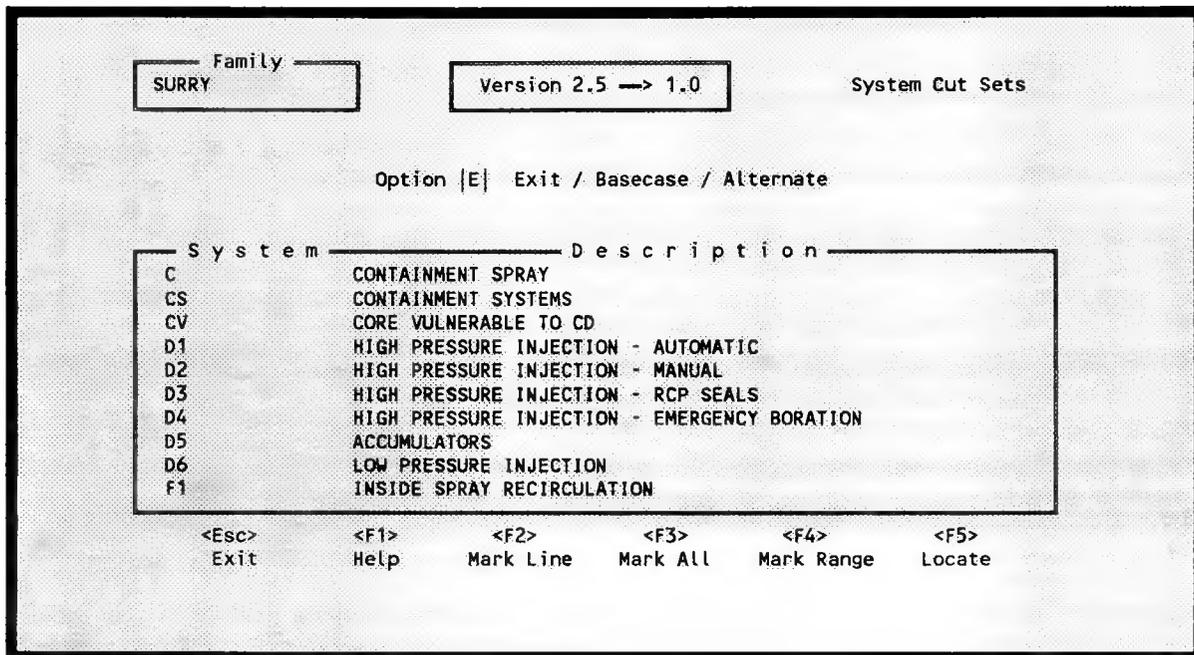

Figure 338. System selection screen.
10.5.3.3 Cut Sets. This option allows you to convert system cut sets generated by IRRAS Version 2.5 to Version 1.0 ".CUT" files. To invoke this option, type a <C> in the option field, or highlight "Cut Sets (FT)" and press <Enter> or <+>. Figure 338 will be displayed listing all the systems in the current family. On this screen, you have three options: Exit, Basecase, or Alternate.